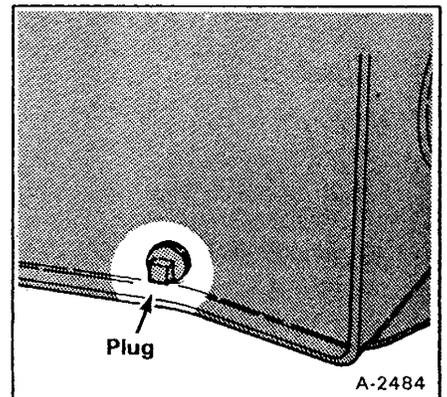

Fig. 1-31 Drain Plug
- (1) Raise the rear of the loader about 6 inches.
- (2) Remove the chaincase drain plug from the front of the reservoir/chaincase (Fig. 1-31). Let fluid drain out. Replace the drain plug.
- (1) Raise the rear of the loader about 6 inches. Leave it in this position for 6 to 8 hours.
- (2) Remove chaincase drain plug from the front of the reservoir/chaincase (Fig. 1-31). Let condensation drain out. Replace drain plug.